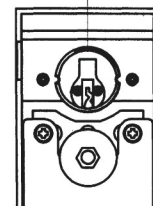

Fig. 4
- b. Screw cylinder into escutcheon trim with cam positioned up (see Fig. 4).